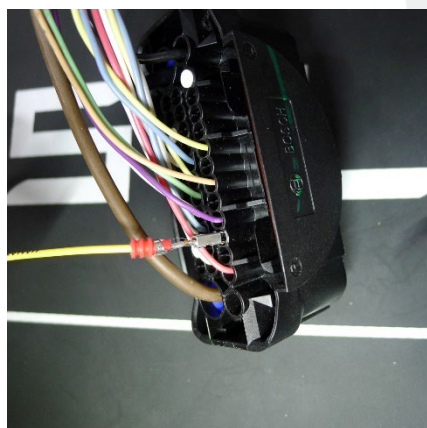
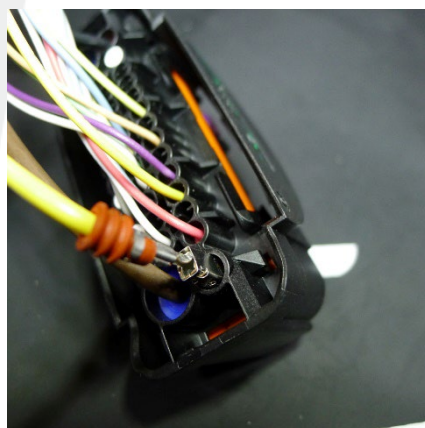

Figure 27
Figure 28
23. Insert the smaller terminal of the jumper into receptacle 28 (Figure 27) and the larger terminal of the jumper into receptacle 25 (Figure 28).